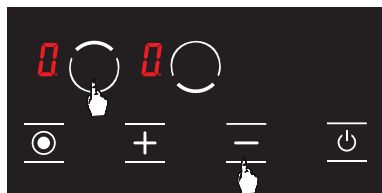

Figure 21
2. Press upper hob selection key (**Top Left**) and minus key (**Bottom Right**) simultaneously. (see Fig. 21) You shall hear a short warning signal at this time. Then, remove your fingers from the stove control panel.